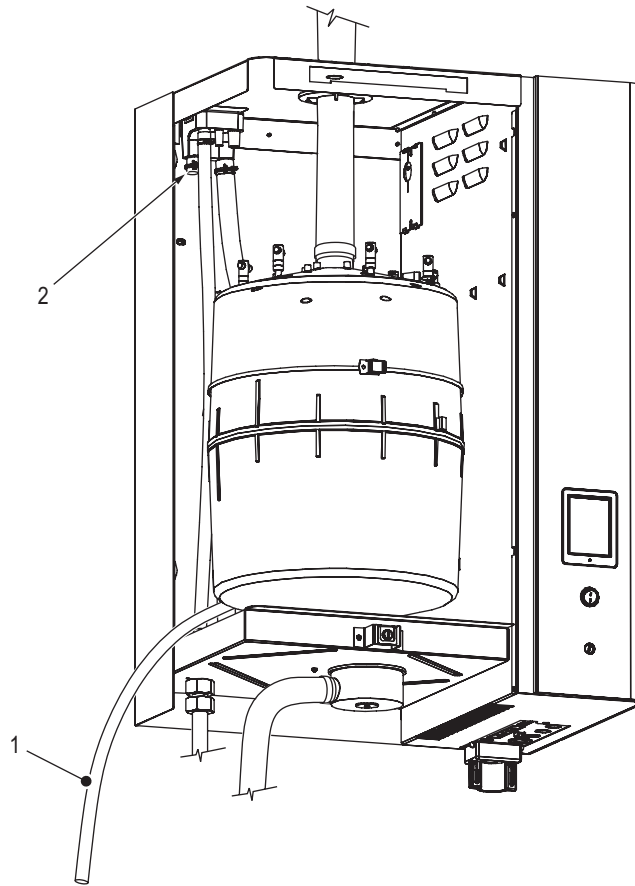

Figure 9: Disconnecting Fill Hose
**Note:** If the control software/drain valve does not function properly, shut down the humidifier – refer to "Shutting Down" on page 62. Then disconnect the fill hose (fill cup to cylinder) at the fill cup, and drain the cylinder. Refer to Figure 9 on page 60.